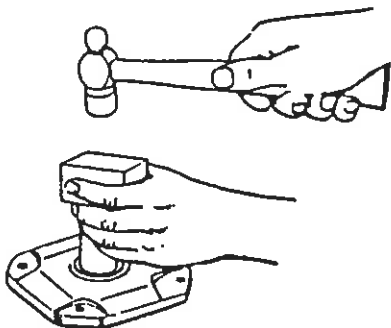

Figure 3
- E. Protect seal lips when handling; seal leakage will result if these are damaged. If a seal with rubber coating on the outside diameter (O.D.) is used, no Permatex is necessary. If no rubber coating is on seal O.D., coat seal cage bore with Permatex No. 3 or equivalent. Coat seal lips with oil and carefully work seal into position. Before sliding seal into position, protect seal lips from shaft keyway edges by wrapping shaft with thin, strong paper coated with oil. Position garter spring toward the inside of the unit. Place a square faced pipe or tube against the seal O.D. and drive or press seal until fully seated as shown in Figure 3. Do not strike seal directly.